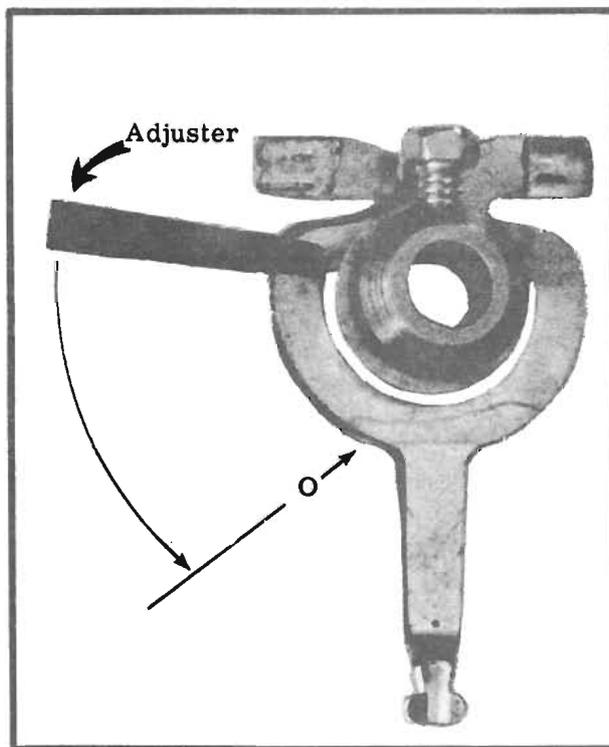

Figure 11. An Adjuster is being Used to Add Tension (Follow) to Line and Control Wiper Springs.
3.16 If wiper spring tension (follow) is to be added, place the adjuster on hub end of wiper spring as shown in Fig. 11. With a slight twisting motion (toward intended follow), work the adjuster to O forming a gradual bow. Remove as much of the bow as possible without destroying tensioning effect. Adjust both upper and lower wiper springs to insure equal wiper pressure on the bank contacts.